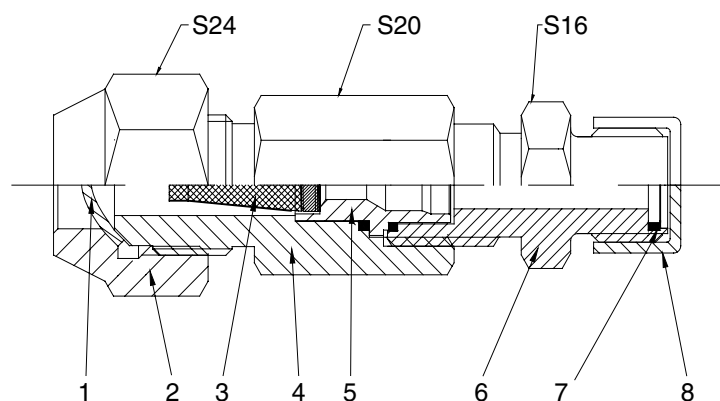

Fig.9.7 Structure of throttle valve
2. During connection, remove the plastic seal cap at one end of the throttle valve (Part 8 in the above Fig.9.7)